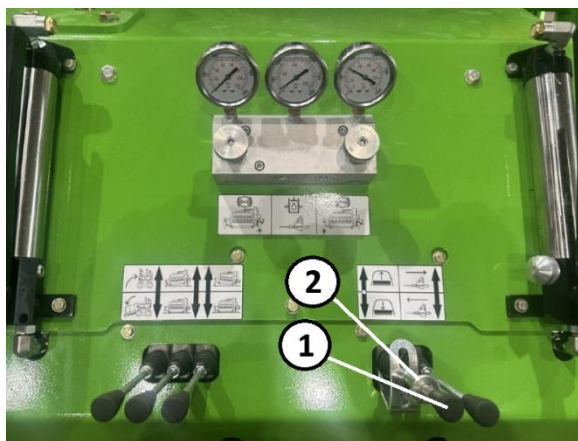

Figure 64. Tunnel Cleanout Lever
7. Lift the safety collar and push the lever to the tunnel cleanout open position and lock it into position. See Figure 64.
10. Lift the safety collar at the lever and pull the lever back to the neutral position. See Figure 64.
11. Activate the anchor position control to pull the anchors to the home position on the indicator. This is done with the cleanout in the open position such that all forage will press over and around the anchors and fall into the Ag-Bag. See Figure 64.